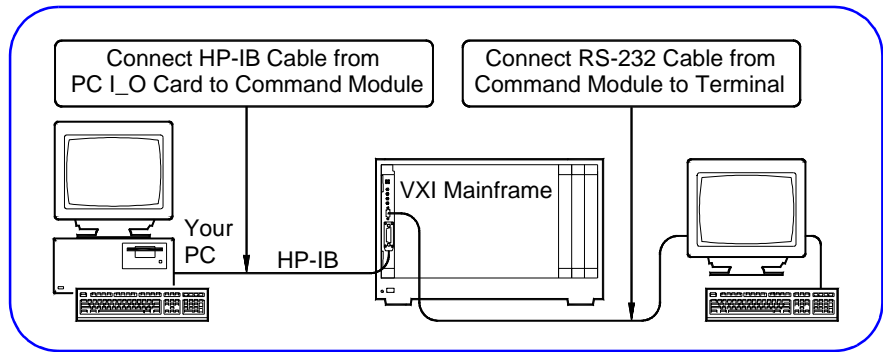

Figure 20. Connecting the Interface Cable
- 2 (OPTIONAL - HP-IB ONLY)** If you have HP-IB Rack & Stack equipment in your system, you can also connect the HP-IB cable to the Rack & Stack instruments (see Figure 20).
- 3 (OPTIONAL - HP-IB ONLY)** For a system with an HP E1406 or HP E1306, you can also connect a terminal to the RS-232 port (see Figure 20). See the *HP E1406A User's Guide* or the *HP E1306A User's Guide* for details.